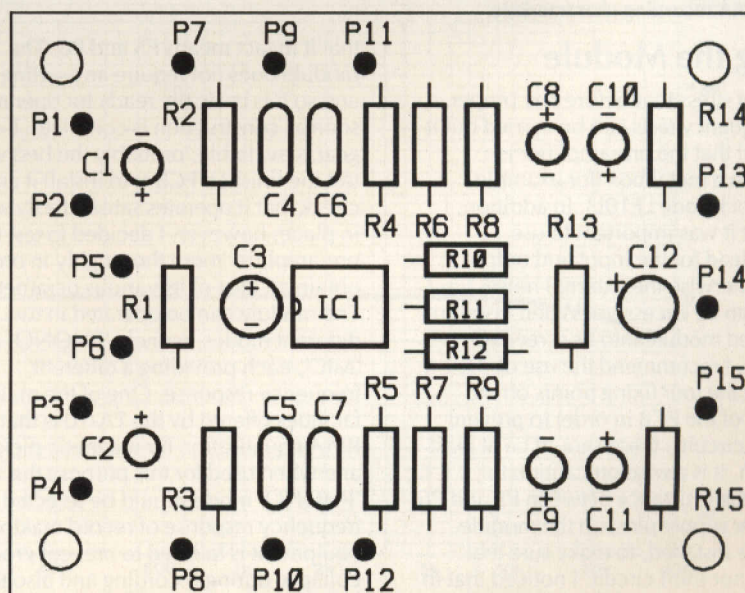
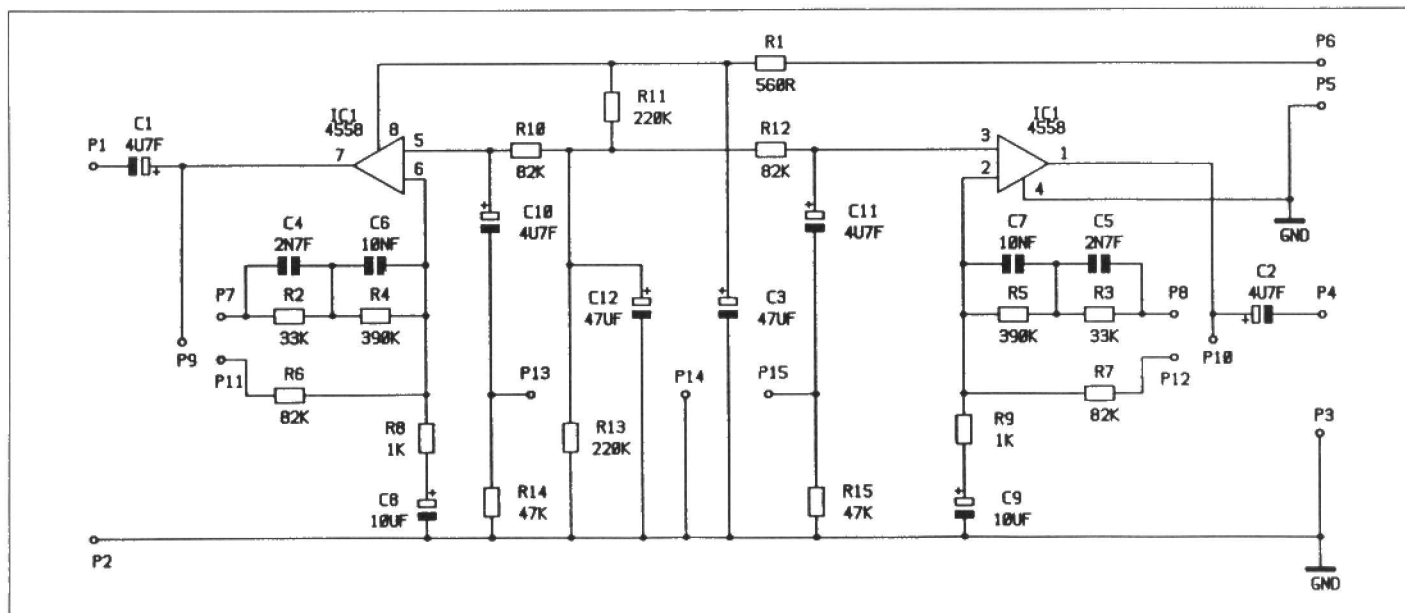

Figure 1. Overlay of the PCB.
Figure 2. Circuit.
This is a review of the TA-10 Stereo Pre-amplifier, one of the new kits from Sound Master Electronics, marketed in the UK by Maplin Electronics. The TA-10 is an 'open ended' module that can be used in many applications where an audio frequency pre-amplifier is required; it has two separate inputs and outputs and is ideal for stereo operation. My first impression of the kit was that of a relatively simple but good quality product which consists of a few components and a fibre-glass PCB. A 4558 operational amplifier IC forms the heart of the pre-amplifier and is in fact, to my surprise, the only semiconductor in the kit. A comprehensive instruction manual is included with the TA-10 giving full details of how to build and test the finished module. The PCB layout (Figure 1) and circuit diagram (Figure 2) have been repeated in this review for reference purposes. Note that in Figure 1 the polarity symbol for C2 is shown correctly (in Figure 1 of the manual it is shown the wrong way round).
The power of the microcomputer is evident to us all. Those who use computers a great deal, whether at work or at home, have accepted readily the interaction that takes place between human and machine. This interaction is performed through the medium of an 'interface', which is the term for any piece of hardware that makes possible the communication (in either direction) between the computer itself and its 'peripherals' and, of course, a human operator. The word peripheral is also a general one used to describe anything that is connected to the computer but lies outside its 'periphery' and so, although being essential for certain operations, is not usually an integral part of the computer itself. Figure 1 is a schematic diagram of a computer connected to a number of peripherals, in a context which most people should find familiar.
The peripherals shown in this figure are: a Visual Display Unit, or VDU, (also known as a monitor); a keyboard; disk drive unit (hard or floppy); a printer and a mouse. Figure 1 merely shows, in a very general way, how the computer is central to its peripherals. It does not show the interfaces mentioned previously, nor does it indicate what the 'microcomputer' actually comprises. To illustrate just how general the scheme of Figure 1 is, take a look at the two work stations shown in Photos 1 and 2. These include most of the features of Figure 1, yet the ways in which they are physically arranged are quite different.
Photo 1 shows a very popular type of computer, the PC (Personal Computer), this one having both floppy and hard disk drives. These drives are housed within a large enclosure, which also contains the computer block of Figure 1 and supports
Figure 2 gives a rather more detailed insight into the component parts of a computer and the way in which the peripherals are interfaced.
**Figure 1. A computer and its peripherals. Not the only such situation but one that is easily identified. The computer is seen as the central element, common to all computing situations; the number and nature of the peripherals can change according to the requirements of the system.**
ROM (Read Only Memory) or RAM (Random Access Memory, more usefully thought of as Read/Write Memory). Most computers will have programs stored in both types of memory, those in ROM either being written to allow the computer to perform a variety of mundane functions such as reading the keyboard, writing to screen, etc, or providing specific functions, such as running a high level language (BASIC, PASCAL, etc) or facilities such as word-processing, and so on. The programs in RAM will be those entered by the user, usually from an external storage device such as a disk drive, although it is, of course, possible to enter short programs into RAM directly through the keyboard. The blocks marked ROM and RAM in Figure 2 indicate the presence of both types of memory, irrespective of how much of each is actually provided.
The final blocks in Figure 2 are the interfaces to the peripherals themselves. Sometimes they are known as the 'input/output ports' of the computer, especially when they are provided by a general purpose interface chip, such as the 6522 VIA (Versatile Interface Adaptor) or the Z80 PIO (Parallel Input/Output). Other interfaces may have names which, by familiarity, determine their likely function. For example, the Centronics parallel port is used with a number of popular printers, whereas some printers either require, or offer the option of, the use of a serial connection such as RS232C.
**Figure 2.** Essential block diagram for any computer, irrespective of its application. It's easy to see why the computer is often referred to as a 'bus-oriented system'. The input/output are quite general as shown and could refer to any of the peripherals and their interfaces shown in Figure 1 or Photos 1 and 2.